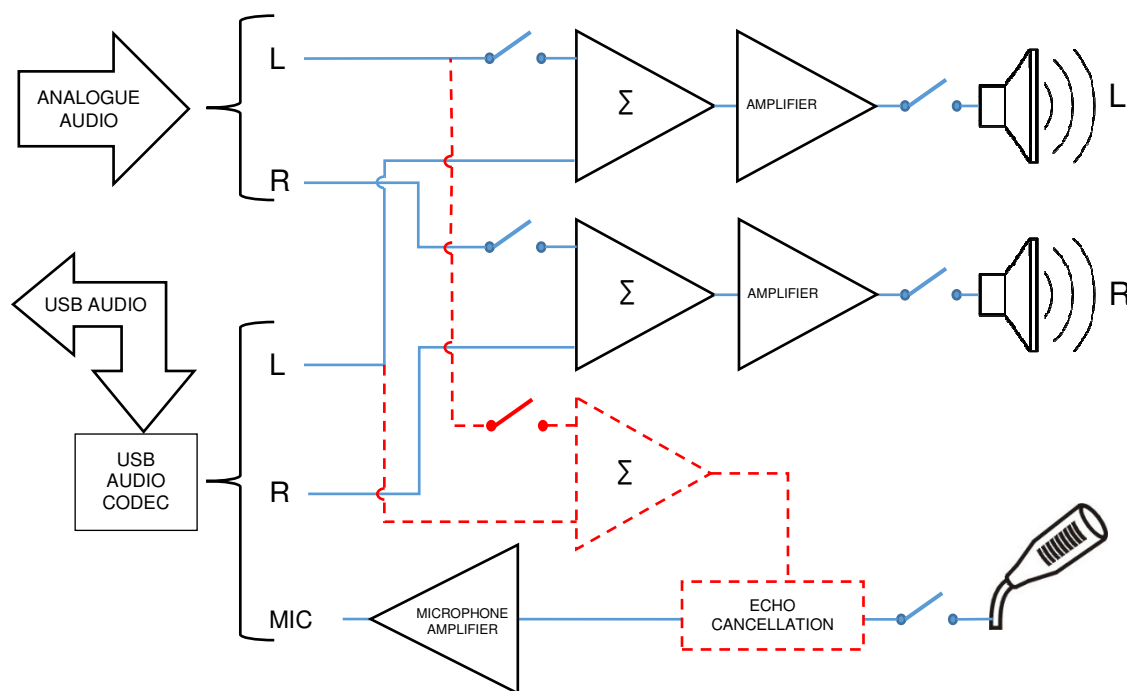

Figure A.4 Audio Board
- ◆ **Audio Board.** Its functional block diagram is shown in Figure A.4 below. Left (Voice) and Right (Alert) Speaker are physically/electrically realized as two loudspeakers in parallel to double the output volume. Internal signal processing includes analogue-to-digital and digital-to-analogue conversion (block “USB AUDIO CODEC”), conditioning (amplification, attenuation, filtering ...), sensing and switching. The complete processing is programmable via ChangeMe software and can be dynamically modified during the operation in so-called On-Line